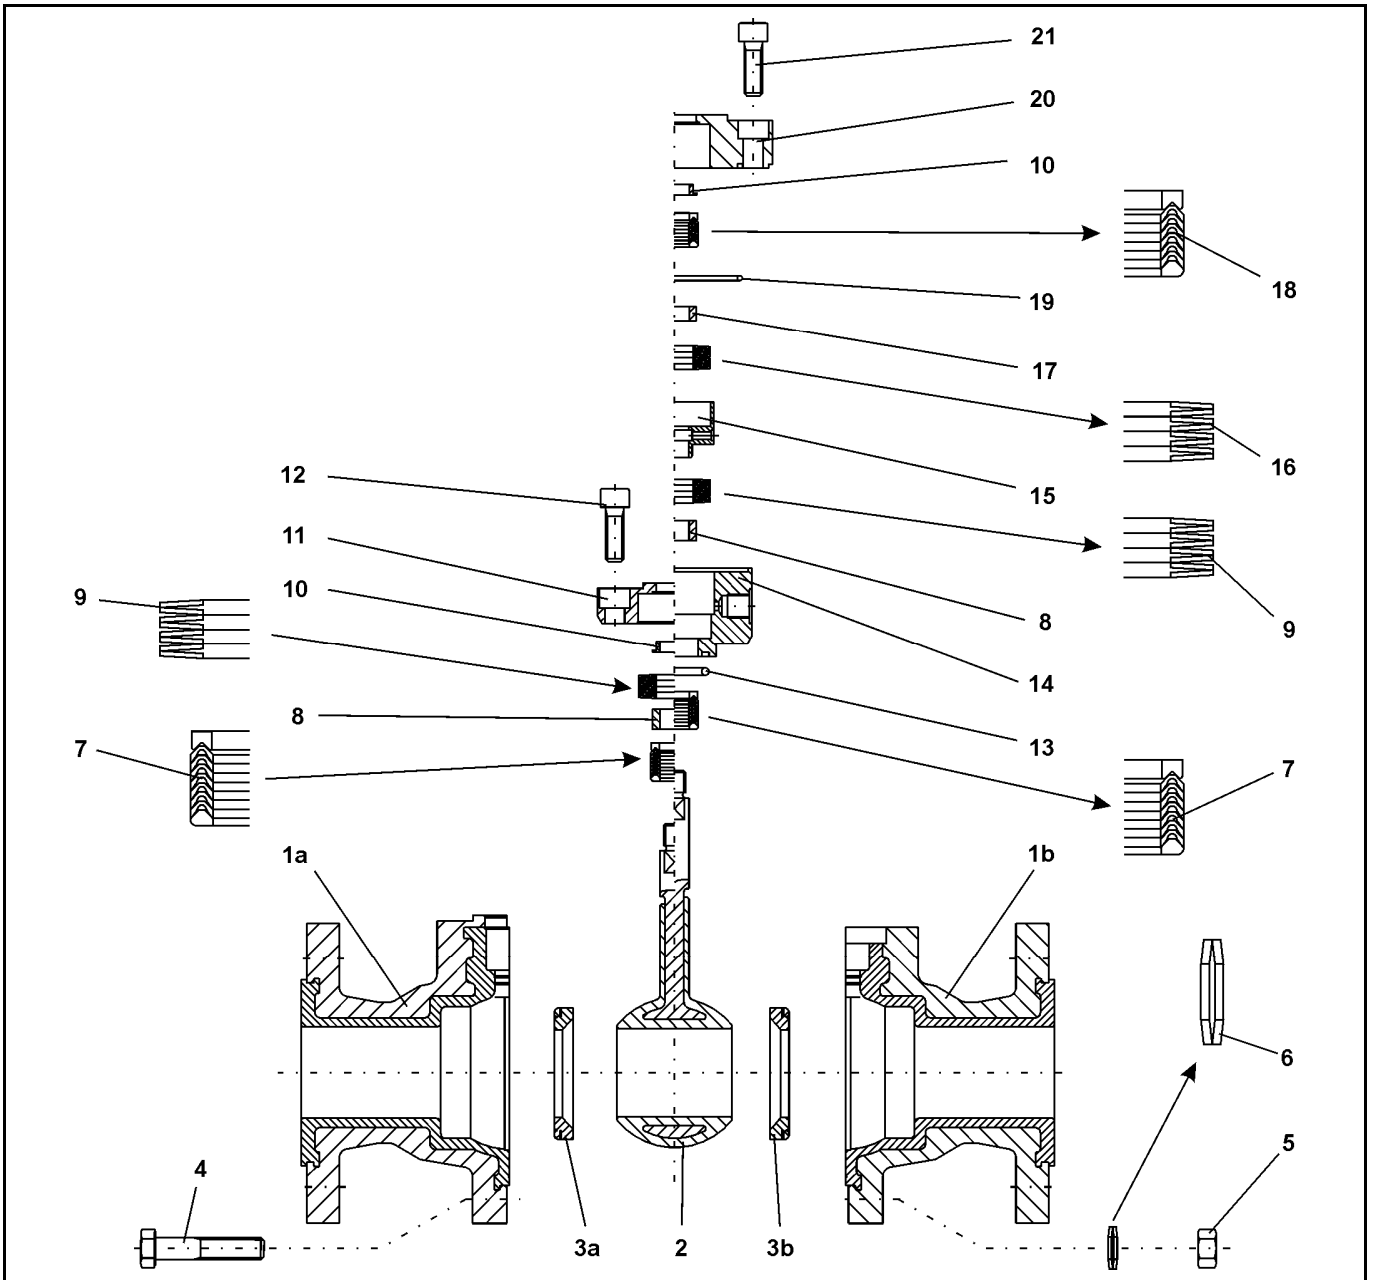
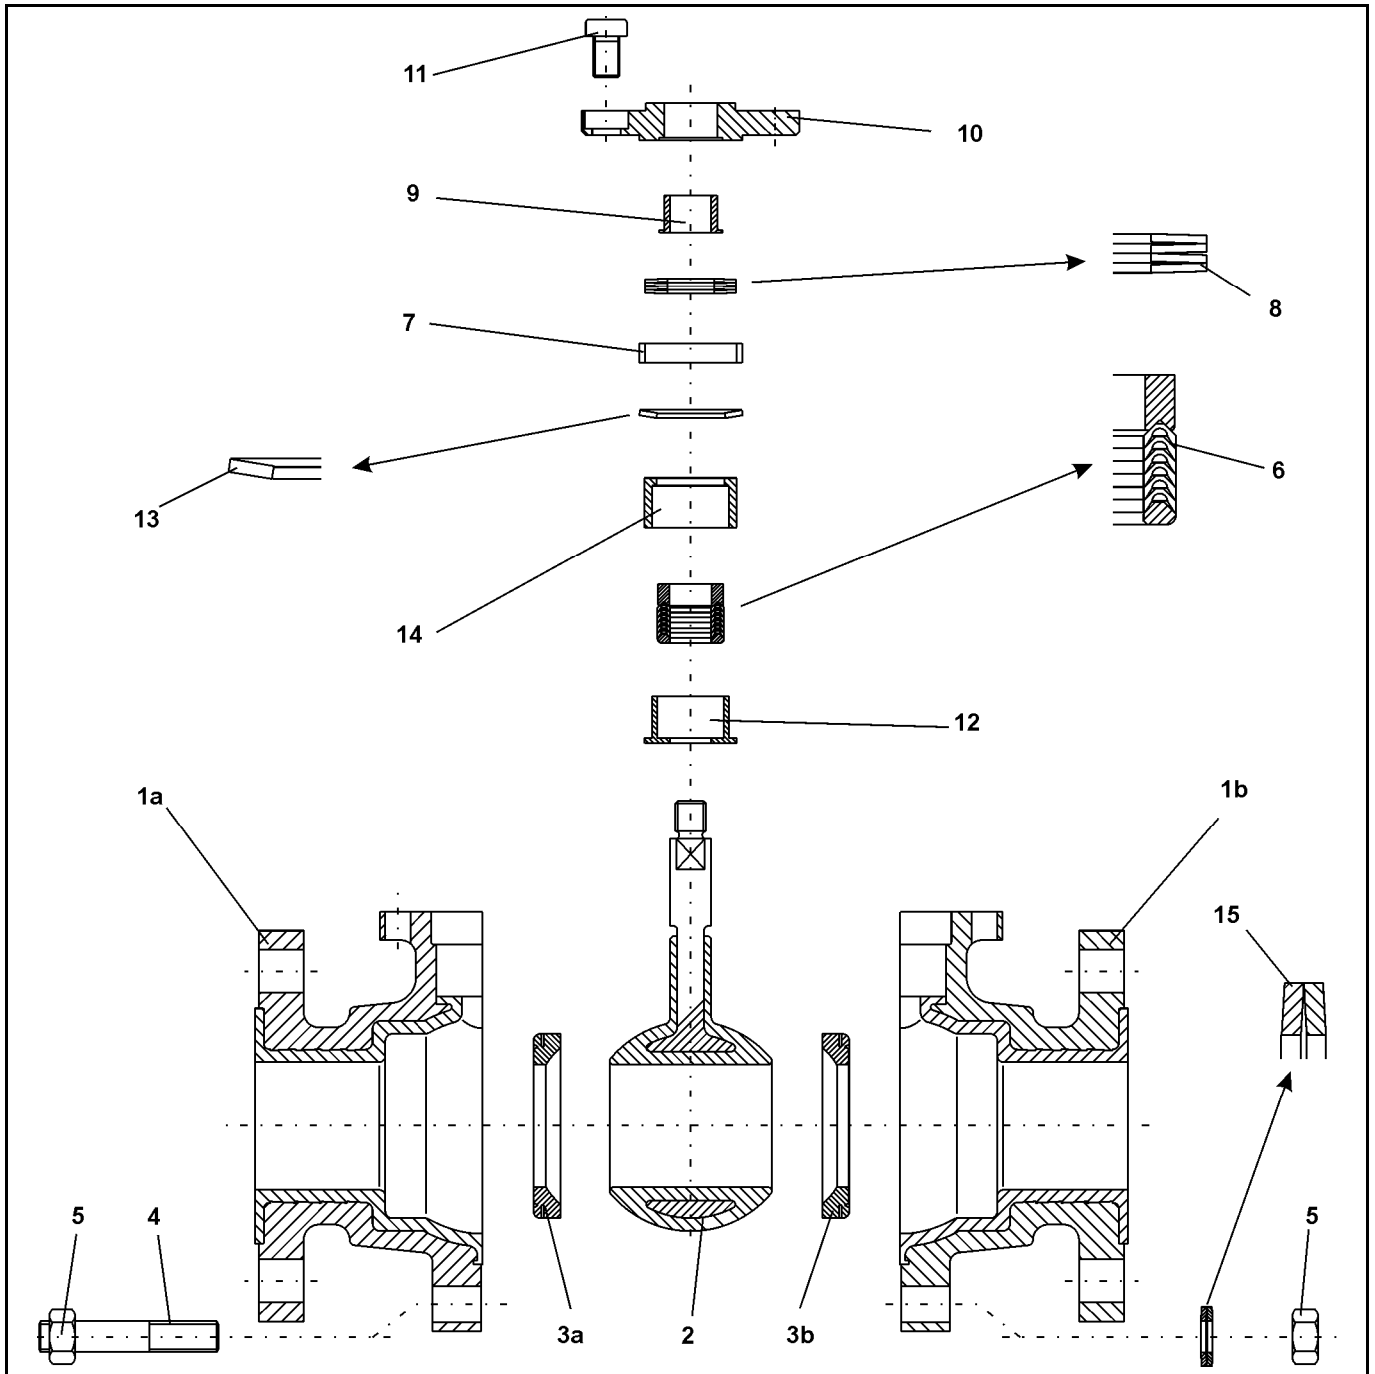

Fig 3 - Explosion drawing of DIN-Ball valve series 20a
Fig 4 - Explosion drawing for the ANSI-Ball valve series 20a
Note: The position and arrangement of the individual parts shown in the drawing (Fig. 3 and Fig. 4), must be followed when assembling the valve.
Screw both body sections together **hand-tight**. Assembly is with hexagon screws (4), hexagon nuts (5) and washers (6). Refer to the explosion drawing (Fig 3) for positioning the spring washers.
For the position and arrangement of the spring washers, refer to the explosion drawing (fig 3).
Refer to the explosion drawing (Fig. 4) for positioning the spring washers.
The bushing (14) is placed on the spring washer (13). Refer to the explosion drawing (Fig 4) for positioning the spring.
Also here, refer to the explosion drawing (Fig 4) for the position of the spring washer set.